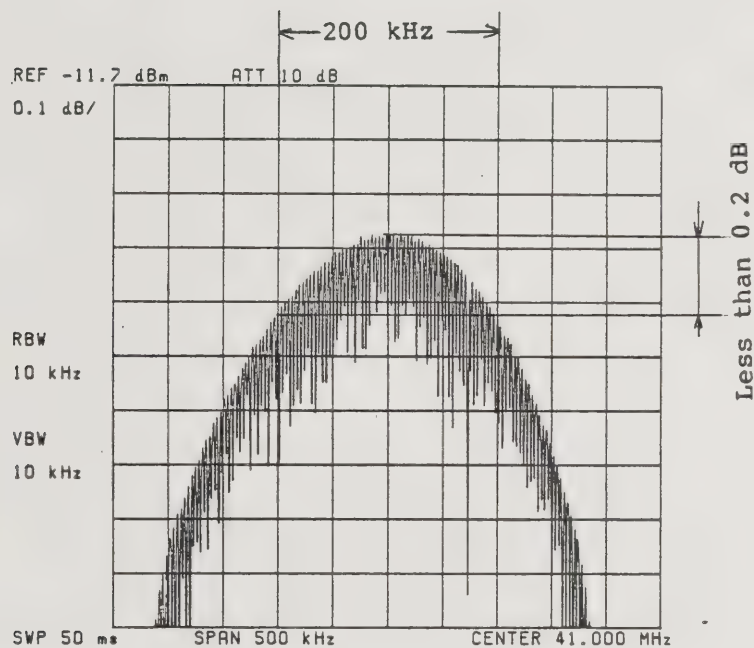

Fig. 11-64 41 MHz B.P.F. adjustment
- (3) 39 MHz mixer oscillator and B.P.F. adjustment
- (d) While varying the output frequency of the signal generator, observe the response of the 41 MHz B.P.F. with the external spectrum analyzer. Adjust C48, C51, C55, and C58 until the output level variation is less than 0.2 dB in the frequency range of 41 MHz \pm 100 kHz, and the response is centered on that frequency. (See Figure 11-64.)